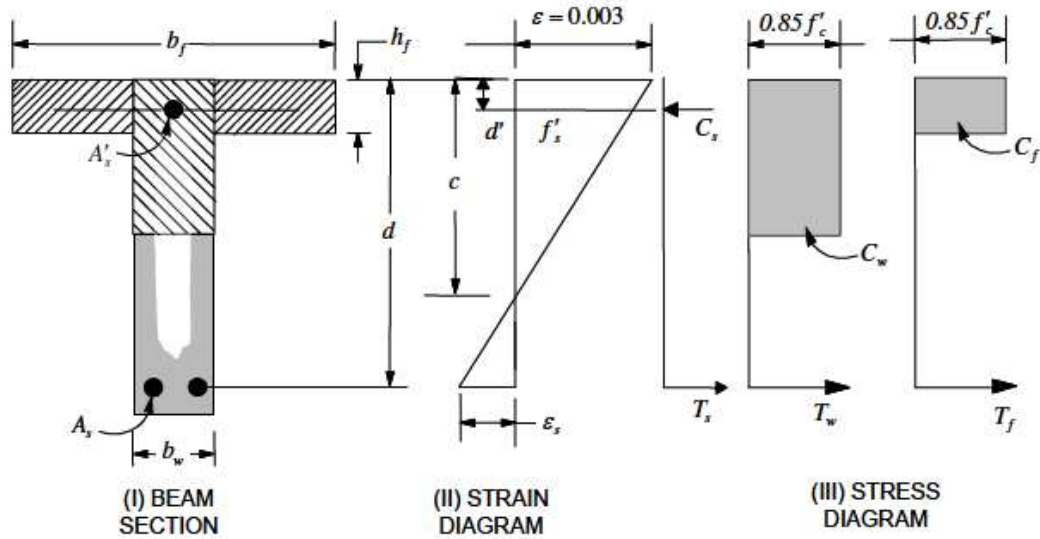

Figure 2-2 T-Beam Design
- If $a > h_f$, the calculation for A_s has two parts. The first part is for balancing the compressive force from the flange, C_f , and the second part is for balancing the compressive force from the web, C_w , as shown in Figure 2-2. C_f is given by: